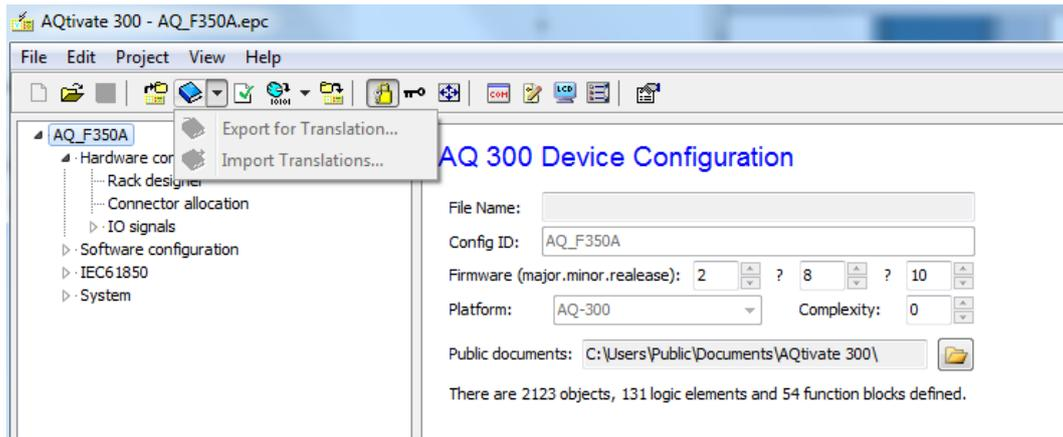

Figure 1-4 The “Translation” menu
-  for translation of the displayed text. By default, the text displayed on the LCD of the device and in the Ethernet communication is generated in English. If the display needs to be in a different language, these dropdown menus (see Figure 1-4) are used to export the original English text and import the translated versions. These menus are not available in “Master view”.